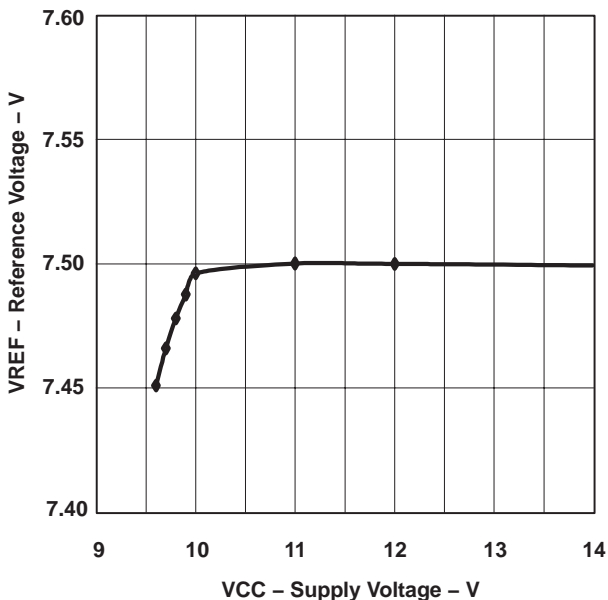

Figure 2
- NOTES: (1) Ensured by design, Not production tested.
(2) Reference variation for  $V_{CC} < 10.8\text{ V}$  is shown in Figure 2.